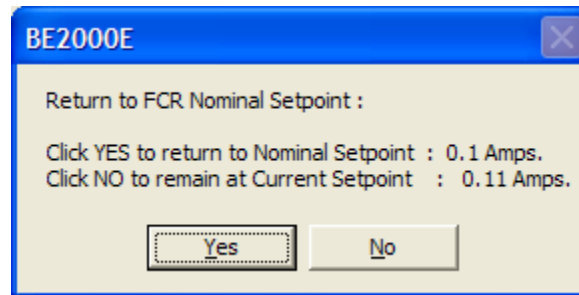

Figure 28. Message Box to Return to FCR Nominal Setpoint
The setpoint value currently set in the unit by any of the above methods is displayed in the current setpoint textbox. To return to the nominal setting the button adjacent to *FCR Setpoint (I) (Nominal)* should be pressed. If the *FCR Analysis* screen is left without returning to nominal setpoint a message box is shown (Figure 28) which allows the user to return to nominal setpoint by pressing *YES* or remain at the current setpoint by pressing *NO*.